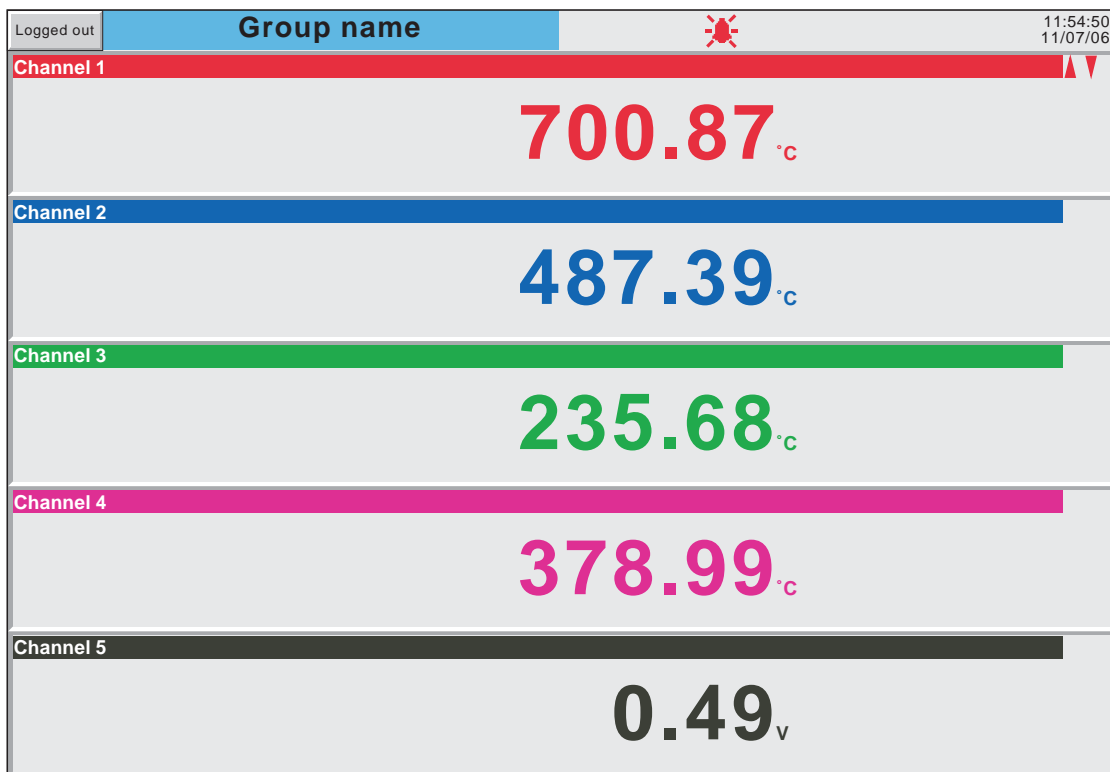
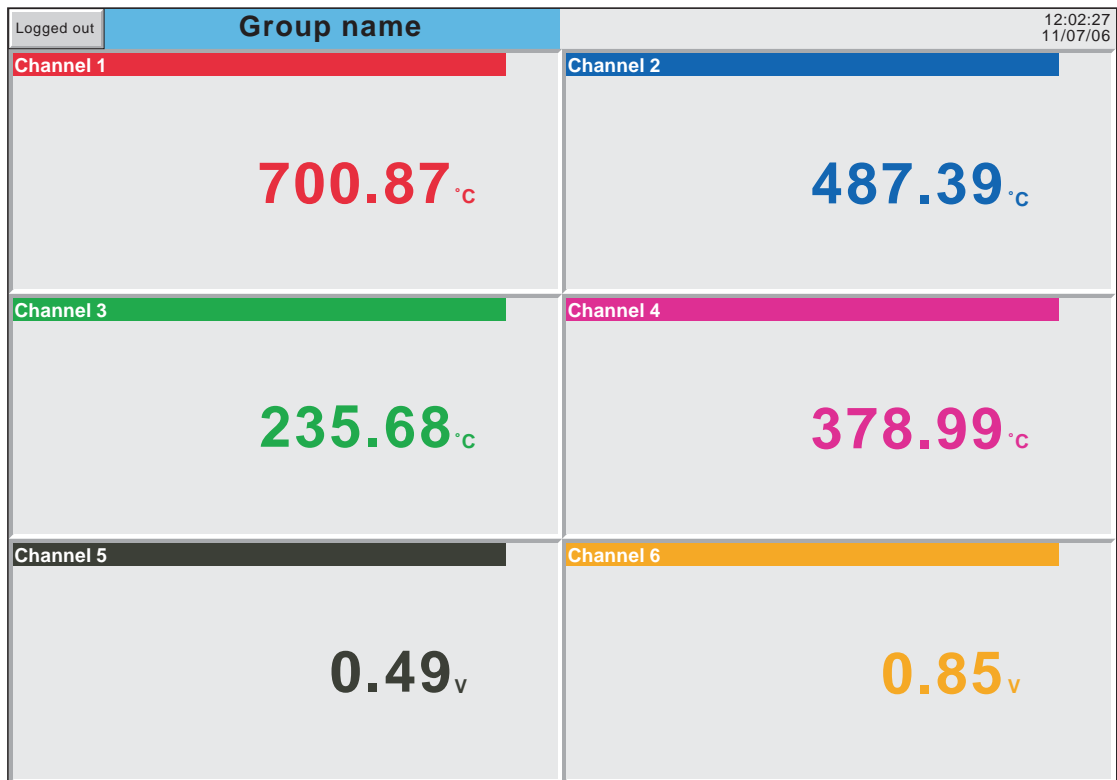

Figure 3.4.6a Numeric display mode (1 to 5 channels example)
Figure 3.4.6b Numeric display mode example (6 channels)
Normal view is available only for large frame recorders (also small frame recorders when viewed *via* Bridge software). As shown in figure 3.4.6b, below, this provides a view of the chart, together with scale, chart speed, message bar and navigation keys. The figure shows a view with faceplates selected on.
Entered from Horizontal bargraph mode by means of the down arrow key, or selected using the Root Menu 'Goto View' key, this display mode shows the Process Variable (PV) values as digital values. The format (which is automatically selected) is based on the number of channels in the display group. Figures 3.4.6a, 3.4.6b and 3.4.6c, show typical (large frame) examples of the one, two and three column versions of this display mode respectively. Within each version, the process variable display areas expand or contract to fill the screen.
Note: Figures 3.4.6a, b and c apply to the large frame instrument. For the small frame instrument, the single column display (figure 3.4.6a) is used for groups with up to four points enabled, and the two column display (figure 3.4.6b) is used, with scroll bar if necessary, for groups with more than four points. The small frame recorder does not employ a three-column mode (figure 3.4.6c).